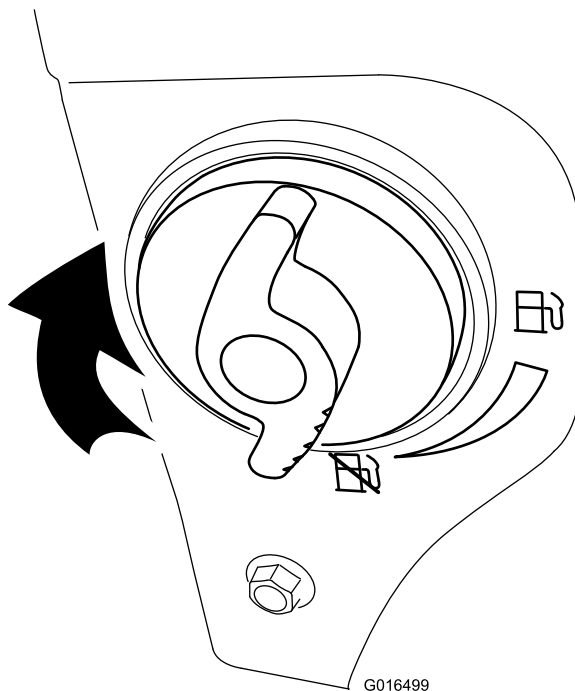

Figure 22
4. Close the fuel shutoff valve by rotating it clockwise (Figure 22).